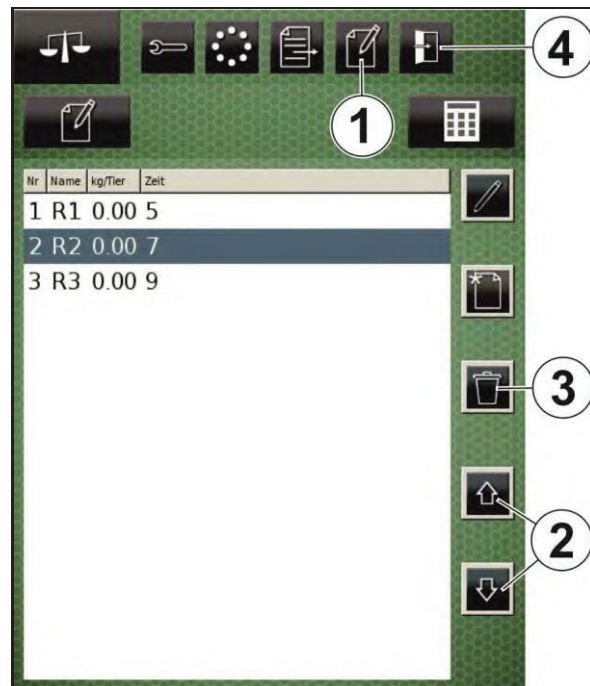

Fig. 210
6. Press the "Exit menu" key (Fig. 210/4) to call up the basic configuration of the terminal.